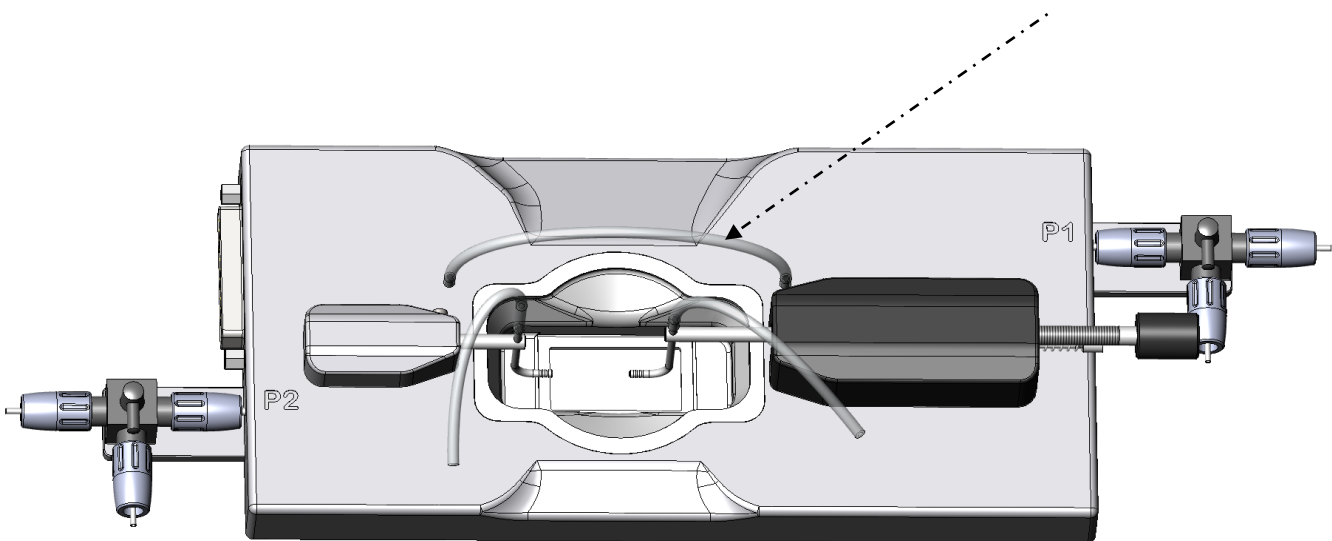

Figure 3.4 Mounting of calibration shunt (resistance tube) in the 110P-XL chamber
3. On the right-hand side of Pressure Myograph chamber is a stainless steel pipe, which is connected to the right cannula (P1) via a small silicone tube (see figure 3.4). Carefully disconnect the silicone tube from the stainless steel pipe.
4. On the left-hand side of Pressure Myograph chamber is a stainless steel pipe, which is connected to the left cannula (P2) via a small silicone tube (see figure 3.4). Carefully disconnect the silicone tube from the stainless steel pipe.
5. Mount the enclosed calibration shunt (resistance tube) to the inlet and outlet connecting pipe as illustrated in figure 3.4.